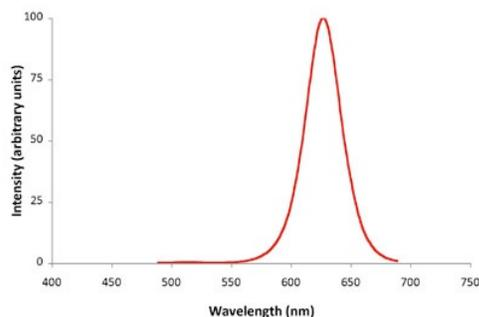
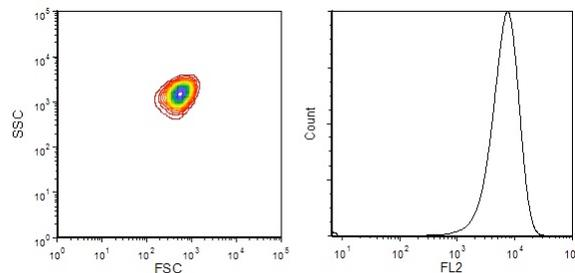

Figure 1. Emission spectrum of Zepto™ Ultra Orange Carboxyl Microspheres.
Figure 2. FSC-SSC plot and fluorescence histogram in the PE/Texas Red channel of Zepto™ Ultra Orange Carboxyl Microspheres on a flow cytometer.
The emission spectrum is illustrated in Figure 1. They are a suitable for a wide range of fluorescent assays such as flow cytometry-based assays. Their Forward Scatter (FSC) vs. Side Scatter (SSC) plot and fluorescence histogram in the PE/Texas Red (405nm, 488nm excitation; 610nm emission) on a typical flow cytometer are illustrated in Figure 2.
1. Gate on the single population of microspheres on FSC vs. SSC plot (refer to Figure 2)